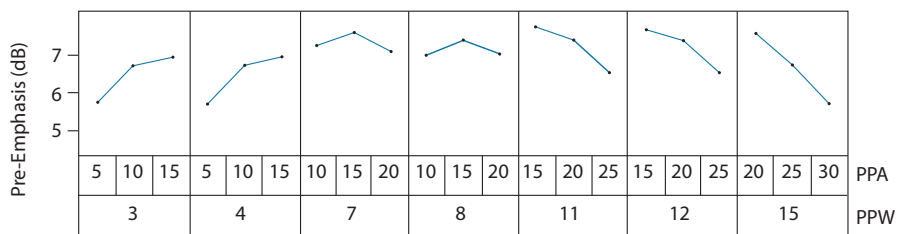
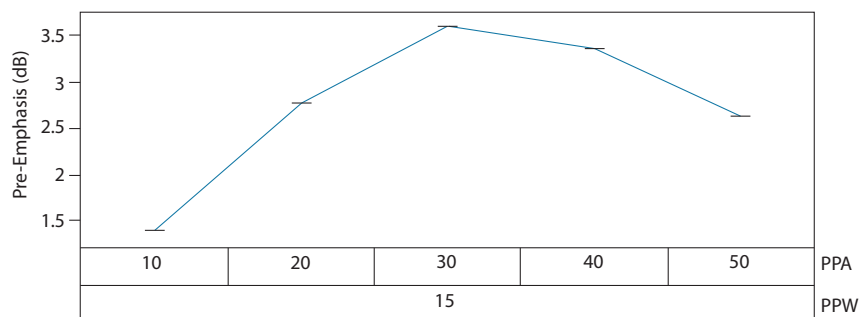

Figure 4-10: Pre-emphasis settings for VCCO_<n> = 1.2V and DS = 7 (swing = 200mVpp)
Figure 4-17: Pre-emphasis settings for VCCO_<n> = 2.5V and DS = 35 (swing = 800mVpp)
The only requirement of the trace driver pre-emphasis settings is to minimize ISI introduced by a lossy link and maximize the eye opening at the receiver. The Pre-emphasis compensation of the GS3241 output channel is a two-step process. The first step is to use the settings from Figure 4-10 to Figure 4-17 that best match the insertion loss of the link in the application, while the second step is a fine optimization procedure.
1. Pre-emphasis Amplitude (PPA) Optimization: Set the PPA and PPW to the values obtained from the graph selected out of Figure 4-10 to Figure 4-17, and then measure the downstream jitter. While keeping PPW constant, increment the PPA by 'a'. If the jitter is lower after the first increment, continue to increment by 'a' until the jitter begins increasing or a setting of 50 is reached. If there was a setting which resulted in a lower jitter measurement than the initial setting, that is the Optimized Pre-emphasis Amplitude setting: PPA_{Optimal}, and the PPA optimization procedure is complete.
If incrementing the PPA or decrementing the PPA did not result in a setting with lower jitter, then the initial setting obtained from the graph selected out of Figure 4-10 to Figure 4-17 is the PPA optimized Pre-emphasis Amplitude setting: PPA_{Optimal}.
2. The second step is to set the PPA to the optimized setting PPA_{Optimal} determined in step 1 and PPW to the values obtained from the graph selected out of Figure 4-10 to Figure 4-17, then measure the downstream jitter. While keeping PPA constant, increment the PPW by 'w'. If the jitter is lower after the first increment, continue to increment by 'w' until the jitter begins increasing or a setting of 15 is reached. If there was a setting which resulted in a lower jitter measurement than the initial setting, that is the Optimized Pre-emphasis Width setting: PPW_{Optimal}, and the optimization procedure is complete.
If incrementing the PPW or decrementing the PPW did not result in a setting with lower jitter, then the initial setting value obtained from the graph selected out of Figure 4-10 to Figure 4-17 is the optimized Pre-emphasis Width setting: PPW_{Optimal}.